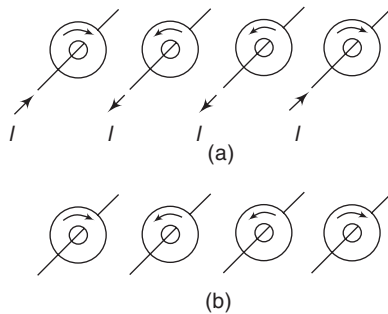

Fig. 1.13 Four-bit Core Register.
Figure 1.13(a) shows a *4-bit core register*. With the right-hand rule you can see that conventional current into a wire produces a *clockwise* flux; reversing the current produces a *counter-clockwise* flux. The same result is obtained if electron-flow is assumed and the left-hand rule is used.
The cores have rectangular hysteresis loops; this means that the flux *remains* in the core even after the magnetizing current is *removed* (see Fig. 1.13(b)). This is why a core register can *store* binary data indefinitely. By changing the magnetizing currents in Fig. 1.13(a) we can *change* the stored data.
1.9 What binary number is stored in Fig. 1.13(b)?
Then, the core register of Fig. 1.13(b) stores binary 1001.